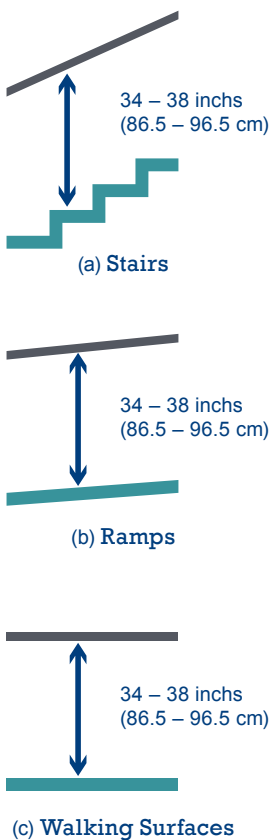

Figure 1: Handrail Height Measurement
- Install a two-rail system; a top rail at 42 inches (106.7 cm) high and a second handrail at 34 inches (86.5 cm) minimum, and 38 inches (96.5 cm) maximum vertically above stair nosings (see Figure 1).
- Handrails should be at a consistent height above stair nosings, ramp surfaces and walking surfaces. Top of handrail gripping surfaces should be 34 inches (86.5 cm) minimum and 38 inches (96.5 cm) maximum vertically above the stair nosing (see Figure 1.).